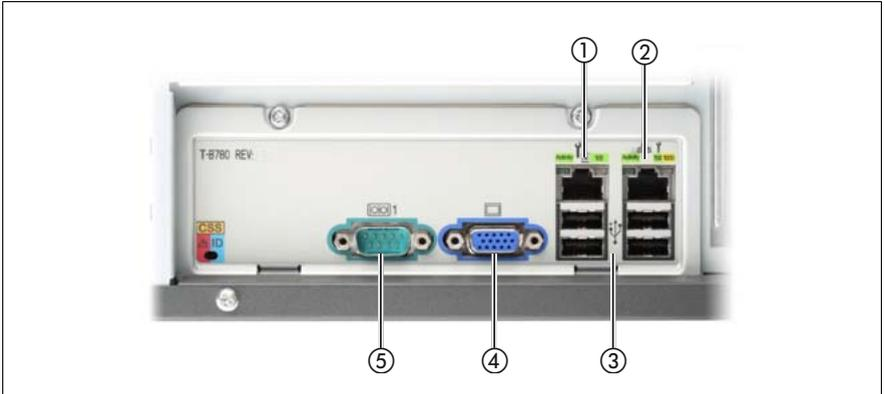

Figure 7: Connection panel on the rear
- ▶ Connect the monitor to the standard port of the server (see figure 7 on page 55).